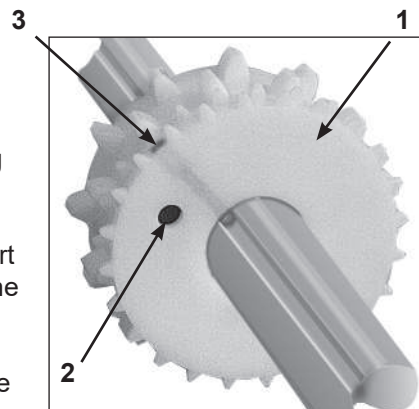

Fig 10
For sowing fine seeds the Kiwifruit Seeder is equipped as standard with a combined normal and fine seed “Elite” metering wheel (1). During grain sowing and other larger varieties of seed both the normal and fine seed metering wheels are coupled and both rotate. In order to convert the seed drill to sow fine seed insert the crank handle and rotate clockwise until the holes (2) of the fine seed wheel are visible (Fig 10).
Care should be taken when tightening the grub screws on the fine seed wheel (Page 20, Fig 10/3). Adjust the grub screw until the movement of the metering wheel just stops, then tighten no more than 1/8 of a turn.